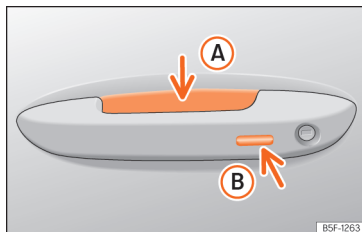

Fig. 74 Door handle: sensor surfaces.
»» **Fig. 74**
- Touch the sensor surface »» **Fig. 74 B** on the outside of the door handle. All turn signals flash once.
• Within 5 seconds, touch the sensor on the outside of the door handle once **>>> Fig. 74 (B)**. Do not grip the handle while doing so. This temporarily deactivates the Keyless Access system.
To close all the electric windows and the sunroof using the **comfort function**, keep a finger for a few seconds on the locking sensor surface **>>> Fig. 74 (B)** of the door handle until the windows and roof have closed.